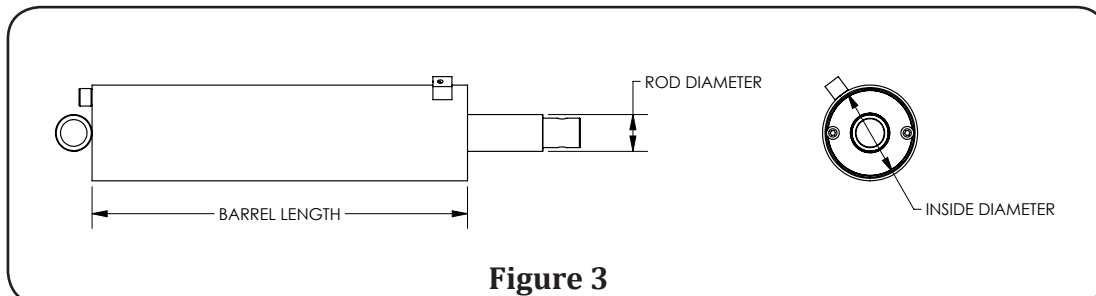

Figure 3
3. LR-26B and LR-2066 models with a round port cylinder require the rod diameter measurement as well. If the rod is necked down at the end, measure the larger diameter after the necked down feature (**Figure 3**).